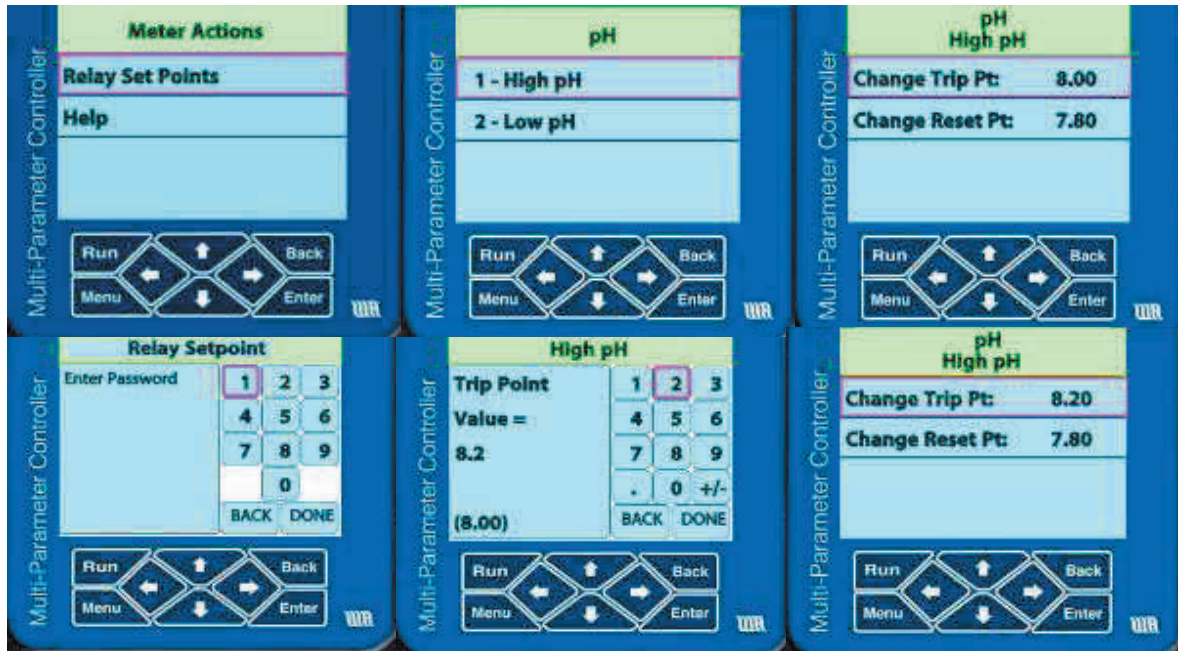

Figure 3-7– The sequence of screens for changing relay set points from the front panel.
3. The next screen shows the relays that have been set. In Figure 3-7 they are "High pH" and "Low pH." Select the relay you want to modify and click on Enter.